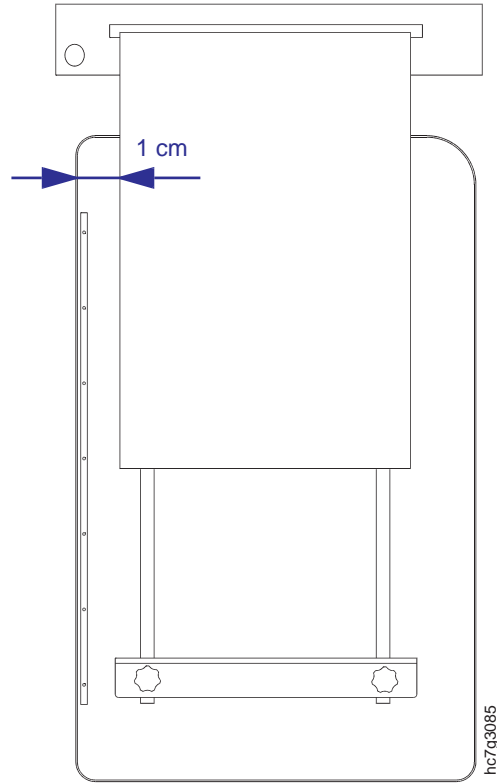

Figure 120. Position of the Jogger
1. Position the jogger so that when the print medium exits the printer it slides approximately 1 cm to the left, before stopping against the sidestop. See Figure 120 on page 116.